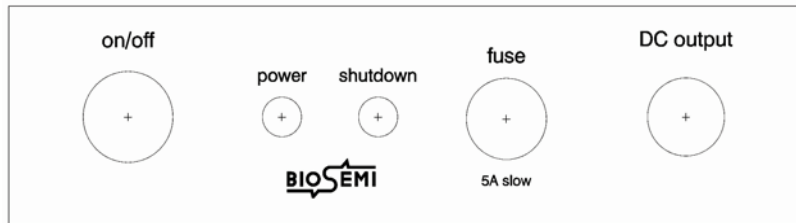
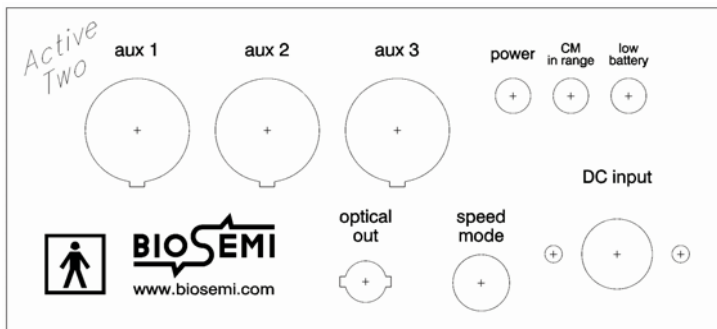

Figure 6
Figure 7
Turn on the BioSemiAD converter (button at the front of the battery, see figure 6). Check whether the Common Mode (CM) in the front of the box is in range (see Figure 7). If it is, you seem to have at least connected everything correctly.